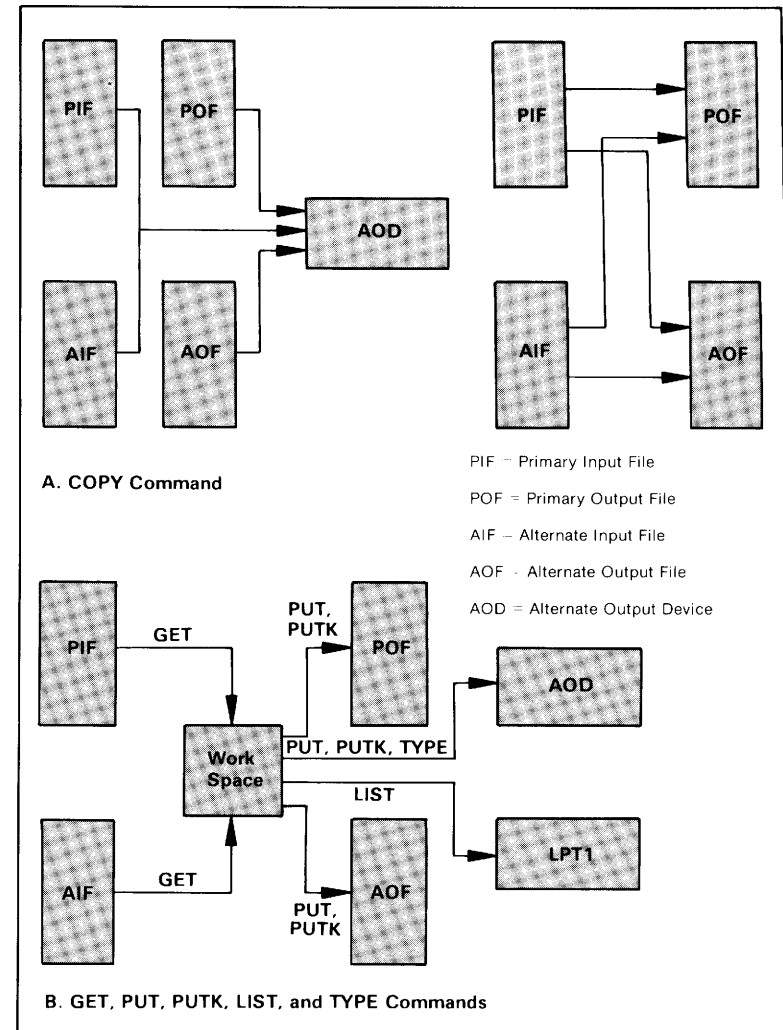

Fig. 3-1. Editor text flow diagram.
These block diagrams illustrate how the Editor can move text between the primary and alternate files. Fig. 3-1(A) demonstrates how text may be transferred with the COPY command. Fig. 3-1(B) depicts the flow of text to and from the workspace.